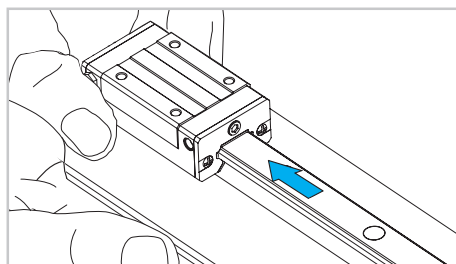

Fig. 10
- 8) Pull off the sliding block (Fig. 10). To re-assemble the sliding block, carry out the same operations in the opposite way.